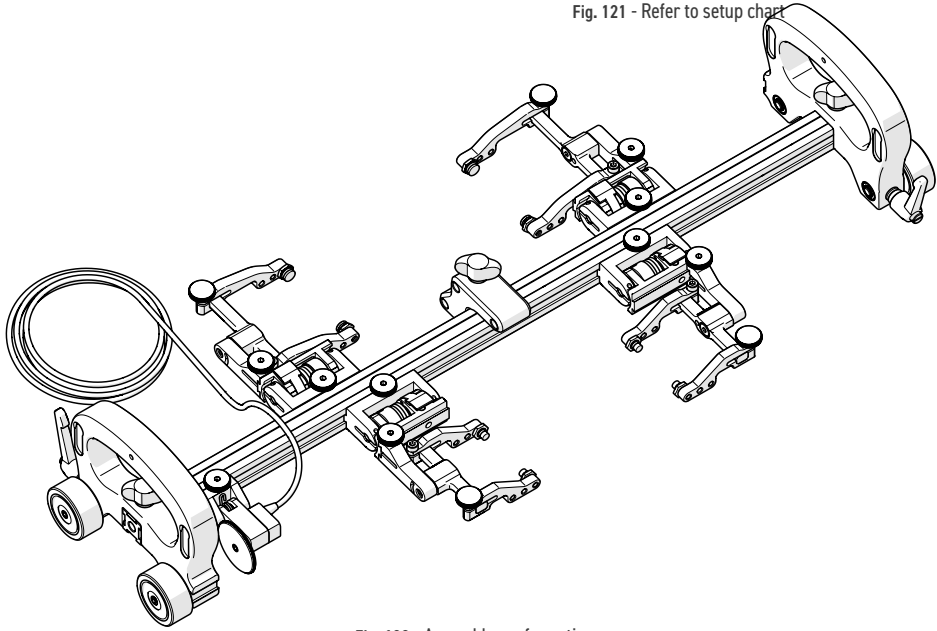

Fig. 122 - Assemble configuration
2. Assemble the appropriate configuration to the frame bar (Fig. 122). Install the wedge and probes that will be used (see Slip Joint Probe Holder on page 14).